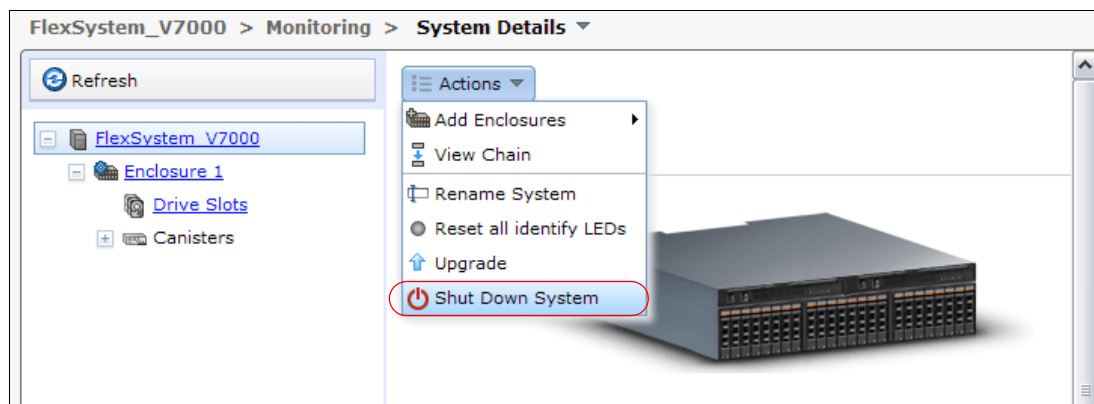

Figure 13-46 Shutting down the system from IBM Flex System V7000 GUI
2. Use the Flex System V7000 Storage Node management GUI to shut down the system, as shown in Figure 13-46.